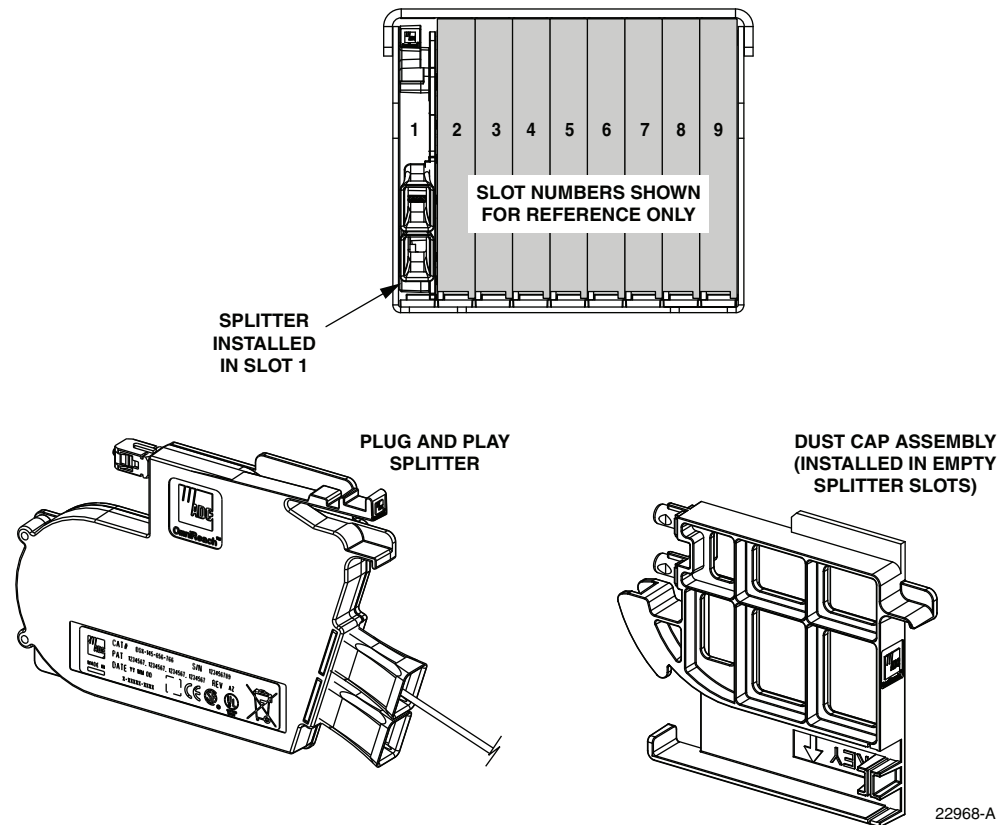

Figure 39. Splitter Module Installation
1. Locate the next available splitter mounting position as shown in Figure 39.